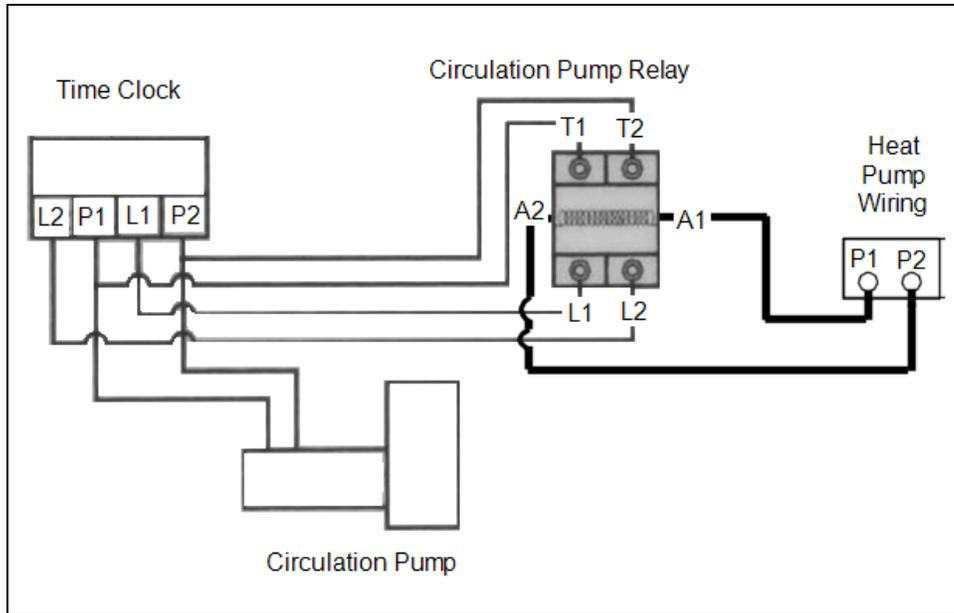
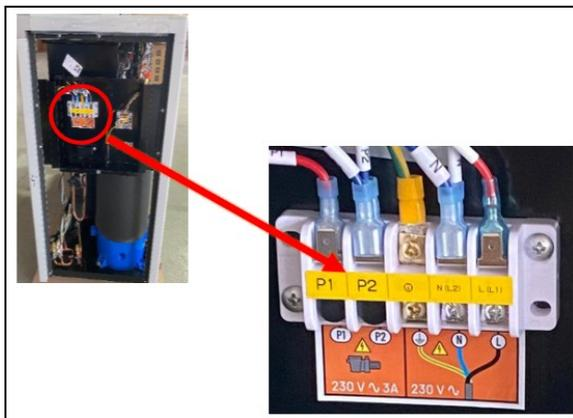
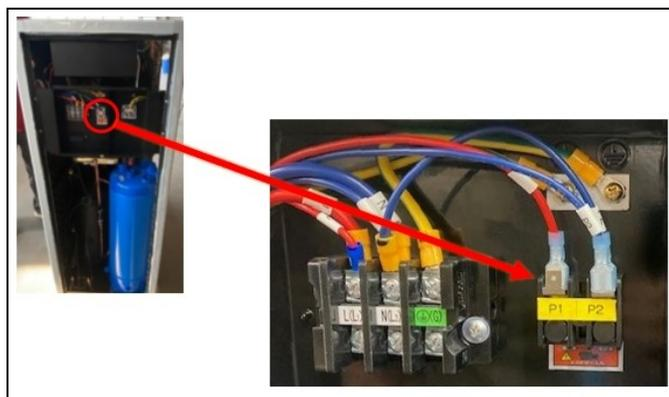

Figure 4
Figure 5
Figure 6
- Connect the coil of the relay ("A1" and "A2") to the "P1" and "P2" terminals to the heat pump as indicated. See Figure 4, Figure 5, and Figure 6.